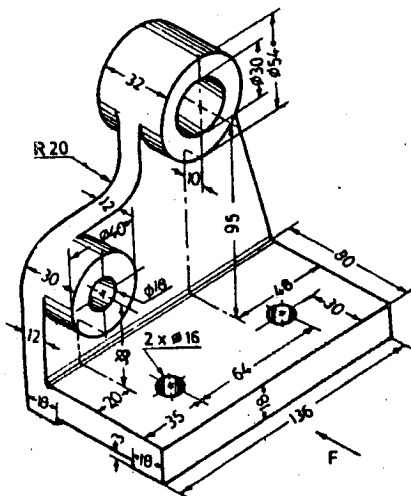

Figure 1
- I. Isometric view of an End Bracket is shown in the Figure 1. Draw the front view and Top view. (20)
- II. A rectangular port of width 30mm and height 20mm is drilled radially in a solid cylinder of diameter 50mm and height 75mm resting on the ground. Draw the plan, Elevation and Sectional End View. (20)
- III. (a) Sketch the following types of threads. (15)